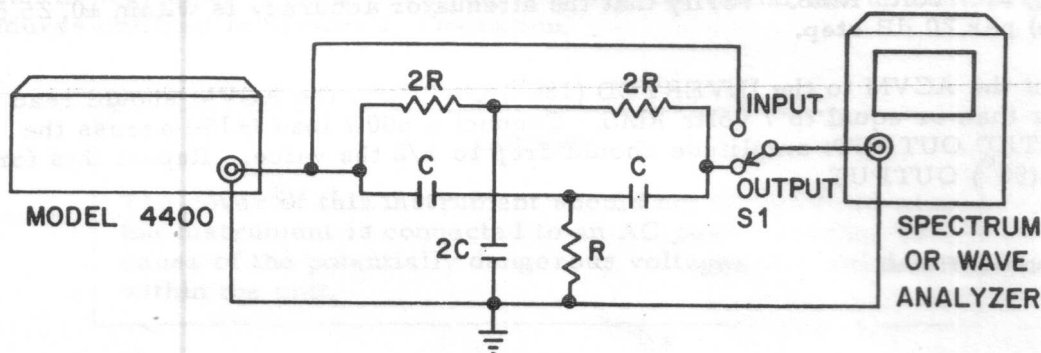

Figure 3-2. Test Set-up For Measuring Output Distortion
- 2) Set switch S1 (Figure 3-2) to the "INPUT" position. Adjust the 4400 frequency to correspond to the twin-tee null frequency.